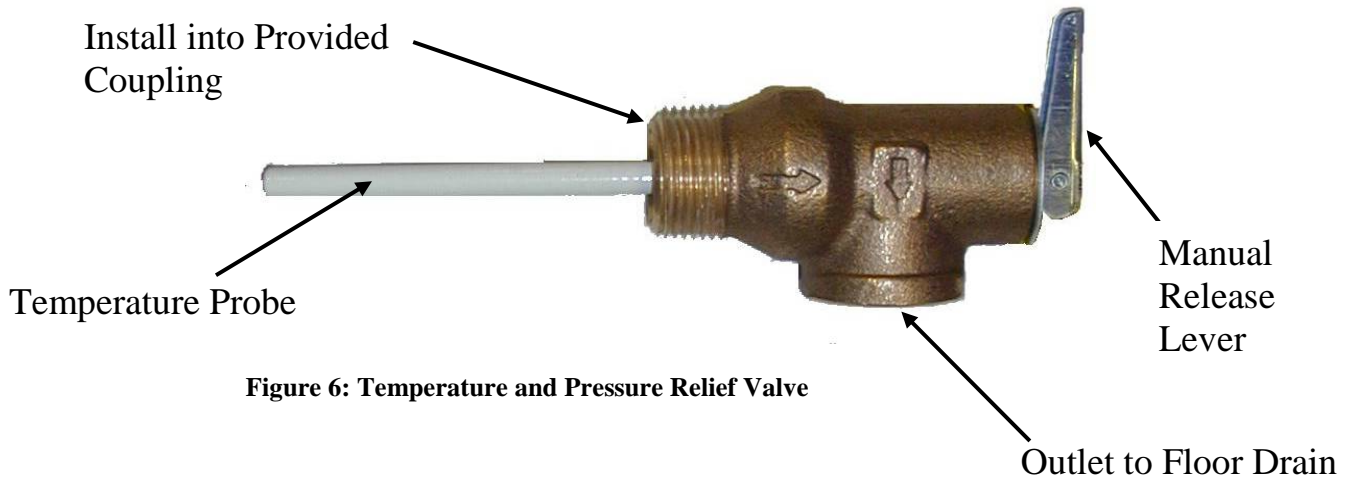

Figure 6: Temperature and Pressure Relief Valve
4. Install the combination temperature and pressure safety relief valve, shown in Figure 6, in the tapping provided. Note that this is required by law for safety considerations.